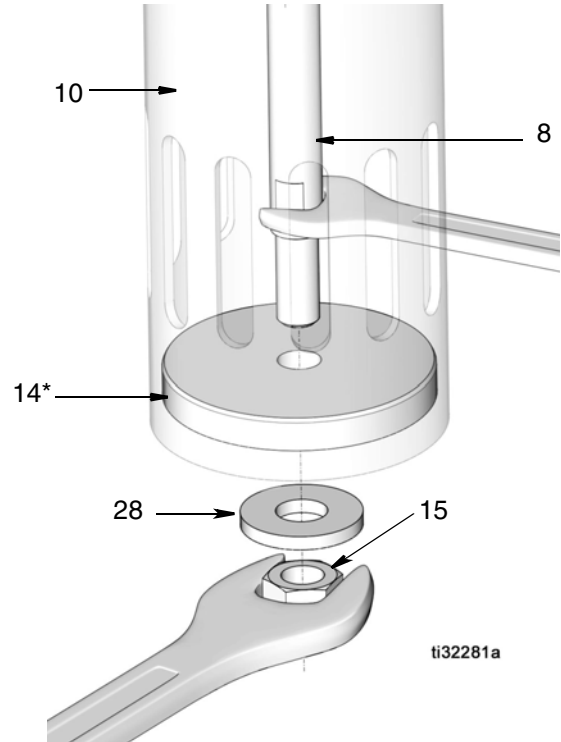

FIG. 6
4. Clamp the air motor base (21) in a vise horizontally by closing the vise jaws on the flange.
5. Insert a wrench through a slot in the foot valve (10) and secure it around the flats of the piston shovel rod (8). While holding the piston shovel rod securely in place, use a second wrench to loosen and remove jam nut (15). Remove washer (28), and priming plate (14) from shovel rod (FIG. 6).
**NOTE:** Using a wrench to hold the piston shovel rod (8) in place during this procedure will prevent it from unscrewing from the piston housing (7).